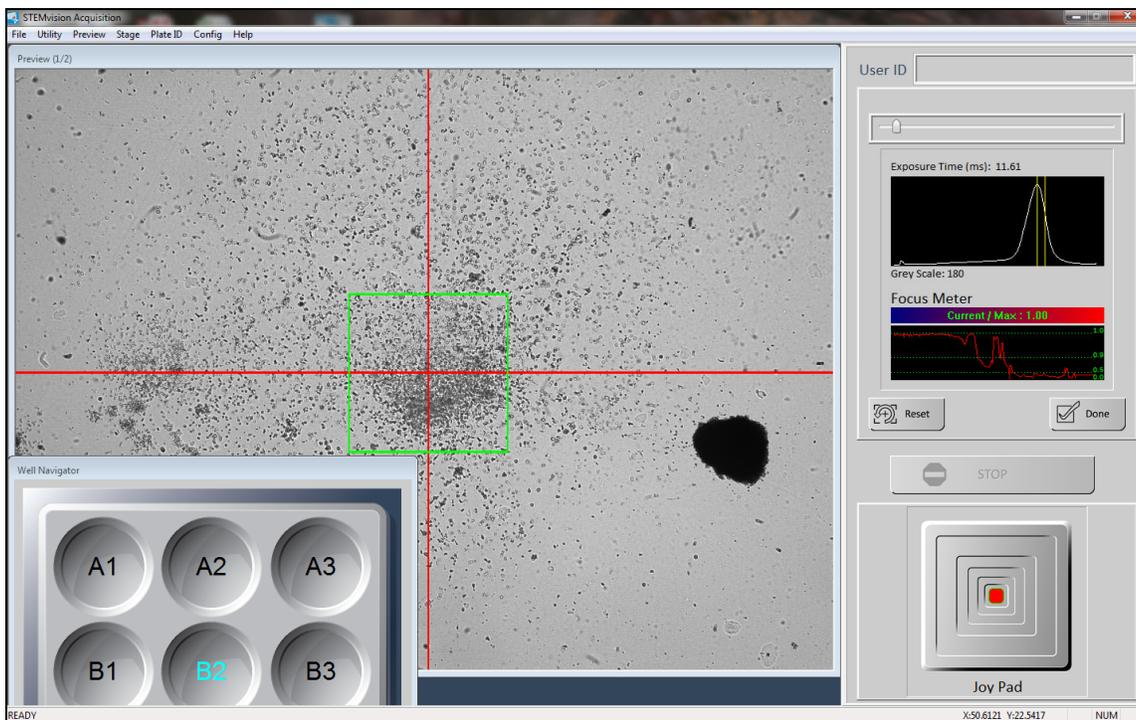

Figure 8. Setting the Focus in the “Set Focus & Illumination” Dialog Box of the STEMvision™ Acquisition Application
- i. Use the Joy Pad to find a location in the well so that a dispersed (e.g. CFU-GM or BFU-E in mouse erythroid-specific conditions) colony with individual cells around its periphery is placed inside the focus area (i.e. green box in the Preview Window) as shown in Figure 8. To set the focus for mouse erythroid-specific media, find a location in a well with a dispersed erythroid colony.